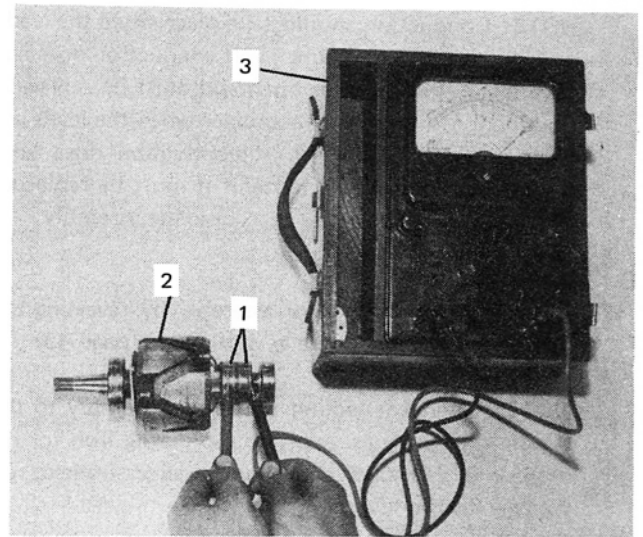

Figure 12
2. Check the conduction between the two slip rings as shown in Figure 12. If no conduction exists between the slip rings, replace the rotor assembly.